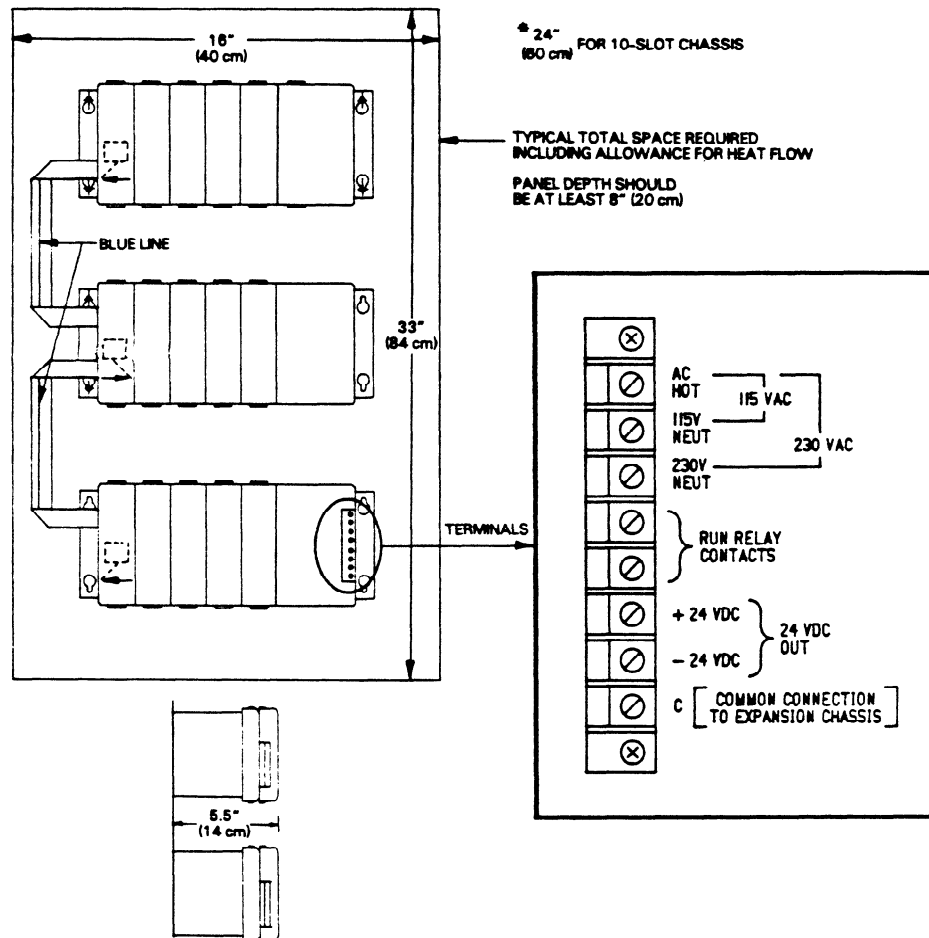

Figure 3-7. Typical Installation Dimensions
9. Fold cable as shown on figure 3-7. Remove dust cover from top connector of second rack and insert opposite end of cable marked "To Expander."